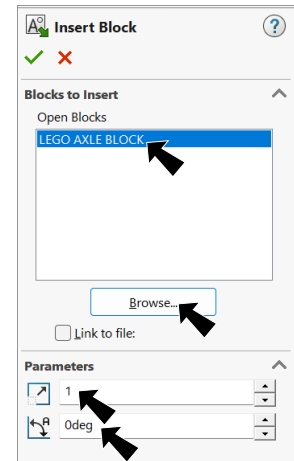
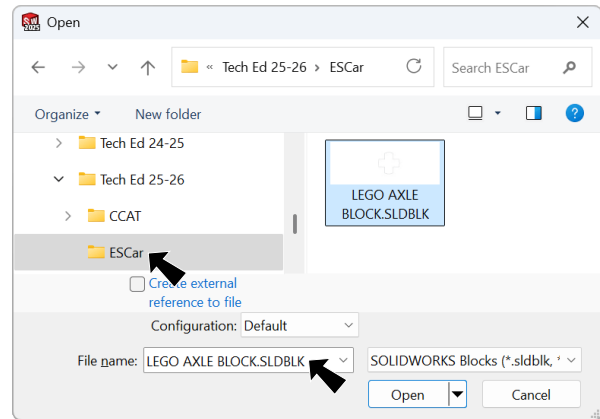

Fig. 24
Fig. 25
Step 4. In Insert Block Property Manager, click **Browse**, **Fig. 24** in the Open dialog box, navigate to: **Documents\Tech Ed 25-26\ESCar** and open **LEGO AXLE BLOCK** file, **Fig. 25** under Parameters